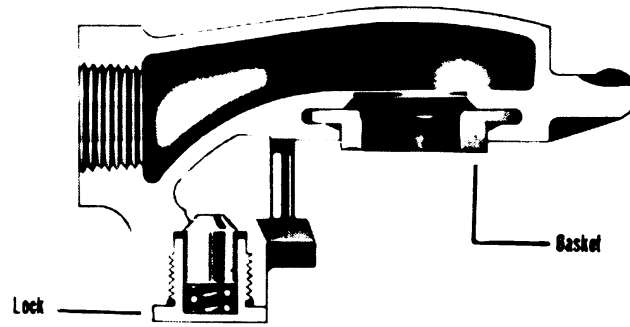

Figure 37—Cross Section of Hose Coupling.
(6) Position the new gasket over the end of the guide in the connector body so the side with removal protector covering is next to the hose. Remove the protector covering from the gasket.
(7) Put the end of the hose in the connector body, making sure the end of the hose and the gasket are against the bottom of the recess in the connector body.
(8) Move the sleeve until it is against the edge of the connector body. Tighten the connector nut. It is only necessary to tighten the nut sufficiently to insure an air-tight joint.
(9) When installing a hose assembly, where both ends are permanently connected, the hose connector at either end is used as a swivel by loosening the nut on one of the connectors. The hose is then turned in the loose connector before the connector nut is again tightened. This permits the installation of the hose assembly without the hose being kinked or twisted.
10. Hose Couplings and Dummy Couplings. (See figures 37 and 38.)